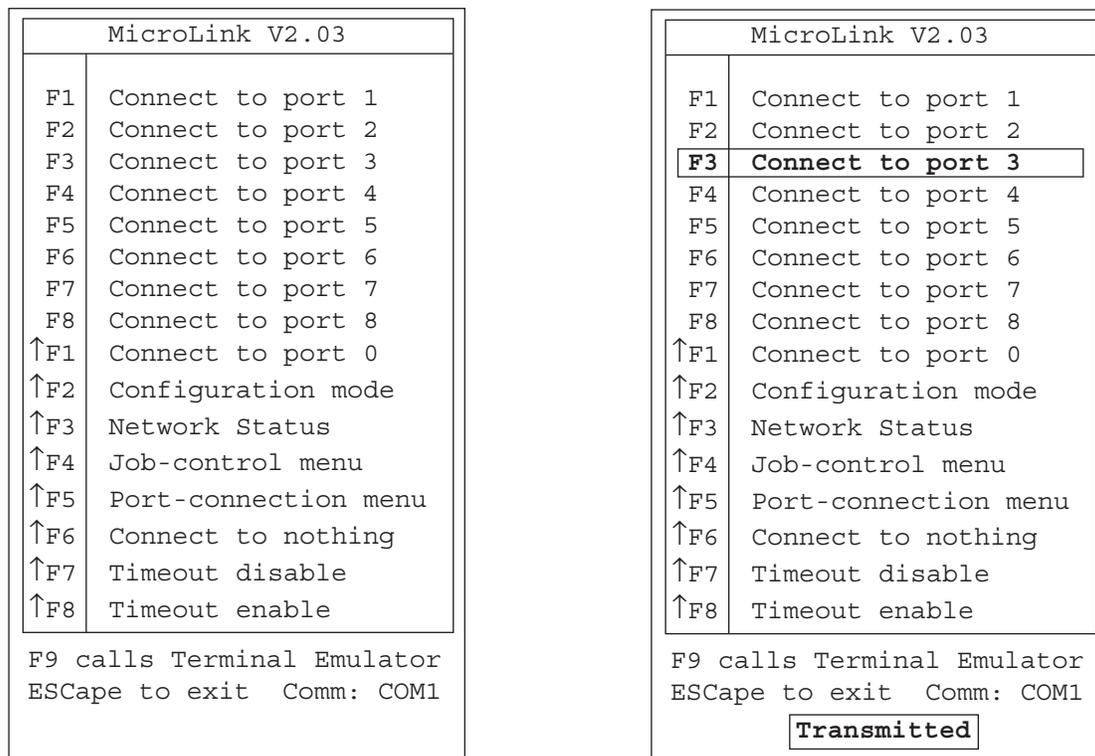

Figure 7-2. MicroLink's pop-up menu before (left) and after (right) a function key is pressed.
The two examples in Figure 7-2 show MicroLink's menu (1) immediately after being called up with the hotkey sequence (left), and (2) after the [F3] key is pressed (right). Note that the title of the string sent is highlighted, and a transmit status message (in this case, "Transmitted") appears at the bottom of the menu. The up-arrows next to the lower eight entries indicate that [SHIFT] must be pressed along with the indicated function key to transmit these strings.